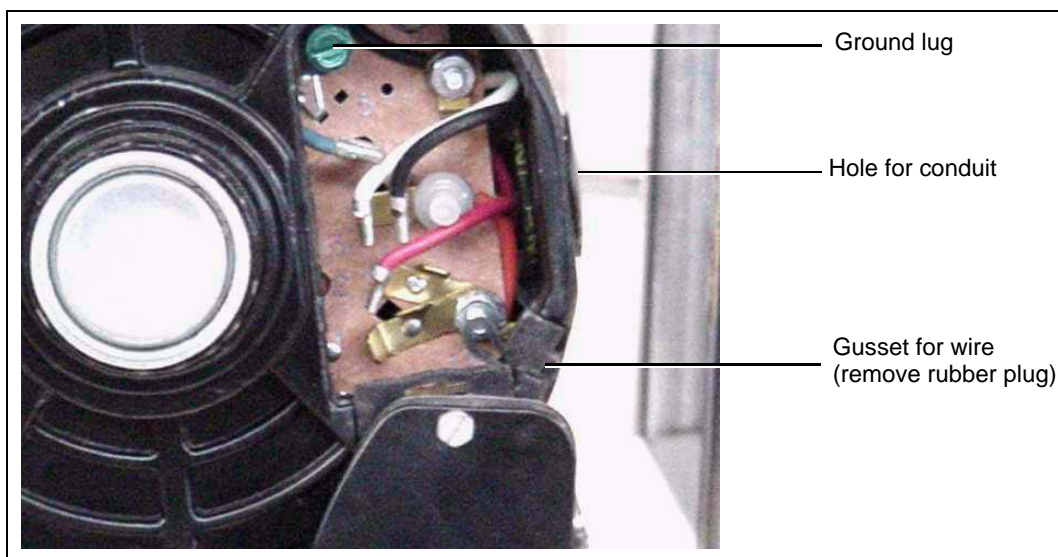

Figure 4A
1. First, remove the back cover of the motor exposing the wiring block. (See Figure 4A.)
2. The motor is designed to use either a solid clamping conduit on the side of the motor or the supplied wire with a 3 prong plug attached. In either case, it is important to attach the ground wire to the ground lug as depicted in Figure 4A. For correct motor rotation (CCW), the Red wire should be located on the L2 connection as depicted. If this is not the case, switch the Red and Black wires. Refer to the wiring diagram on the side of the motor for correct wiring for 115V and 230V supply.
1. With the fan de-energized, rotate the prop and look for clearance between the prop tip and the housing. Check all fasteners to ensure they are tight. When satisfied, energize the fan and make note of direction of rotation. The prop should turn counterclockwise when viewed from inside the house. If not, refer back to Figure 4A on Page 15 and switch the Black and Red wires as noted after de-energizing the fan. When satisfied the fan is operating properly, turn OFF power and insert the shutters into the housing. Rotate the button retainers to lock down the shutters.
- a. For belt driven fans, check the belt, pulleys and the bearings after every two (2) months of service. Take note of the belt position in the pulleys; make sure it is slightly raised or flush with the pulley. If recessed into the grooves, replace the belt.
- b. The motor and shaft bearings are lubricated at the factory. The motor bearings should never require lubrication over the life of the fan. Pillow block bearings should be re-lubricated every 30 operating days and/or after each wash down cycle with three (3) shots of grease or until fresh grease is seen purging past seal. Lithium or lithium-complex based #2 NLGI grease must be used. Other types of grease are incompatible with the factory lubricant and will damage the bearing.